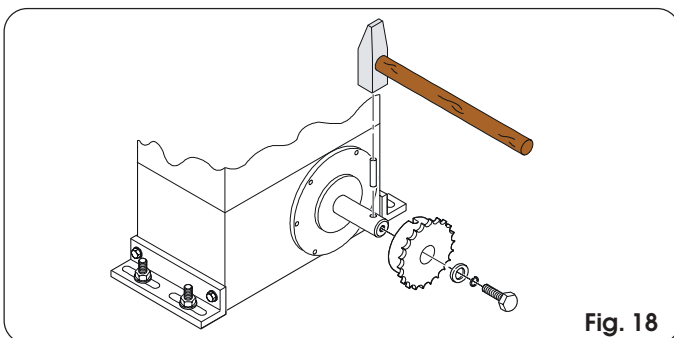

Fig. 18
**4.5.1. MOD. 746 ER CAT (Figs. 18 - 19)**